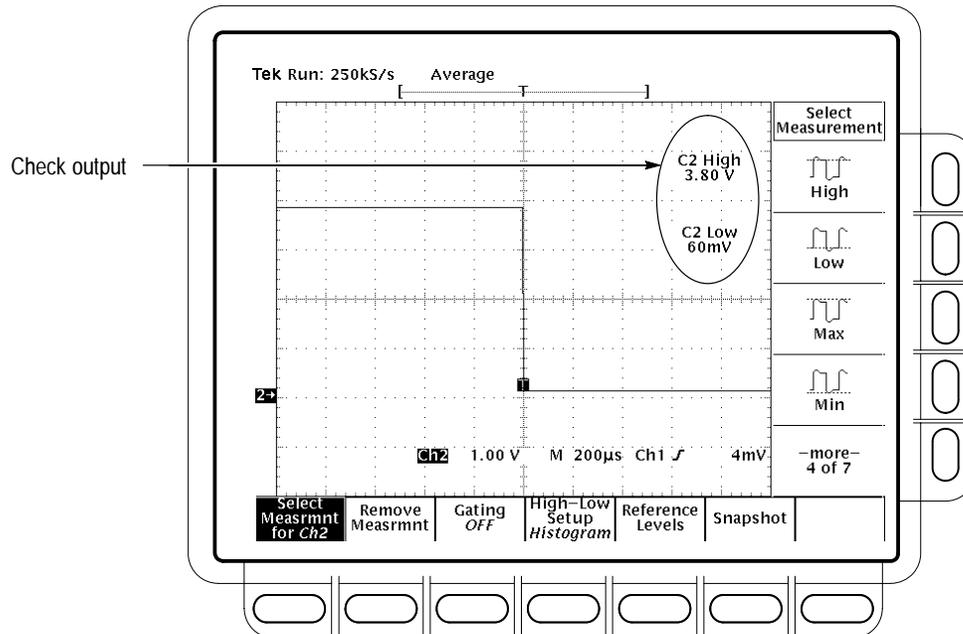

Figure 4-21: Measurement of main trigger out limits
- d. *Check Delayed Trigger output against limits:* See Figure 4-21.